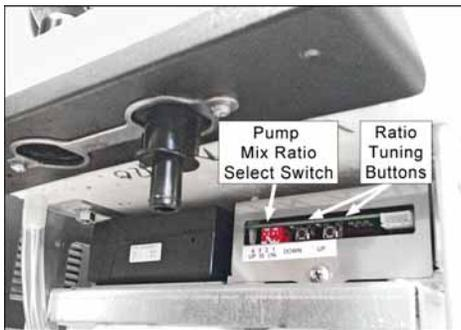

Figure 4-3 - Ratio Select Switch & Tuning Buttons
1) Set the DIP switch for a ratio (Fig. 4-3).
For each method, access the mix-ratio control switches (Fig. 4-3) by removing the splash panel.